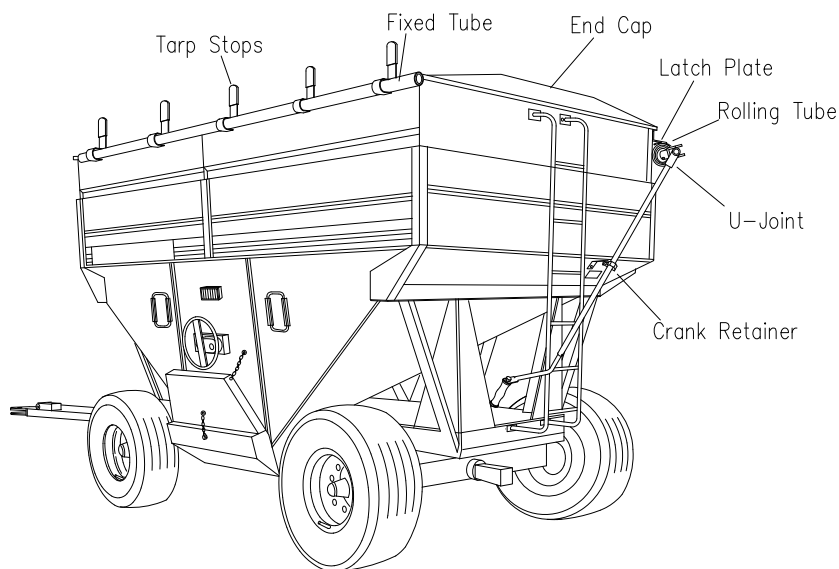

FIG. 1
1. Center mounting bezel in molded fender relief. Once located, use mounting bezel as a template and drill two  $\frac{3}{16}$ " diameter mounting holes thru fender. See figure 1.